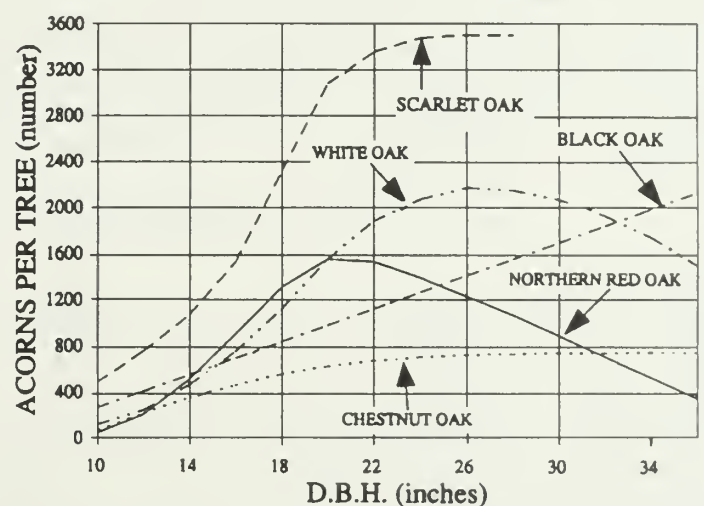

Figure 1. -Average annual acorn production per tree in relation to d.b.h. in the southern Appalachians. (Based on a 7-year study: Downs, 1944.)
Other factors being equal, trees of large diameter produce more acorns than trees of small diameter. However, in some species, production declines after the tree reaches a threshold diameter (fig. 1). Oaks with crowns fully exposed to light, such as dominant and codominant trees, produce more acorns than trees with crowns totally or partially shaded. In
4. Increase or decrease the rotation (or in uneven-age management, maximum tree diameter) to include the tree diameter of maximum acorn production of the predominant species in each stand. For example, production in northern red oak peaks when tree d.b.h. reaches 20 inches and then it declines in larger trees (Fig. 1). In contrast, white oak production is maximized at about 26 inches. Many other species, however, do not exhibit well-defined diameter-related peaks in production at least within the diameter ranges that have been reported. Large senescent trees are usually poor acorn producers.